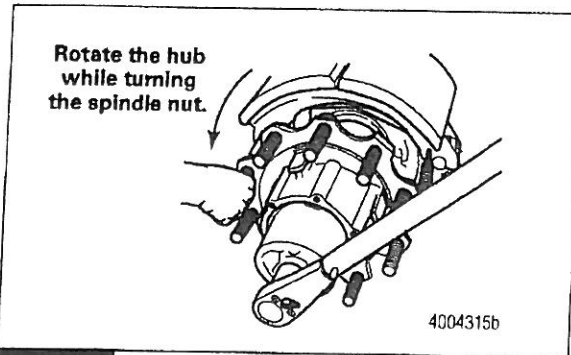

Figure 11
8. Tighten the spindle end nut to 810-850 lb-ft (1100-1150 N•m) while rotating the wheel and hub in a **COUNTERCLOCKWISE** direction. Do not back off the nut after tightening. Mark the nut location relative to the spindle. Figure 11. ①